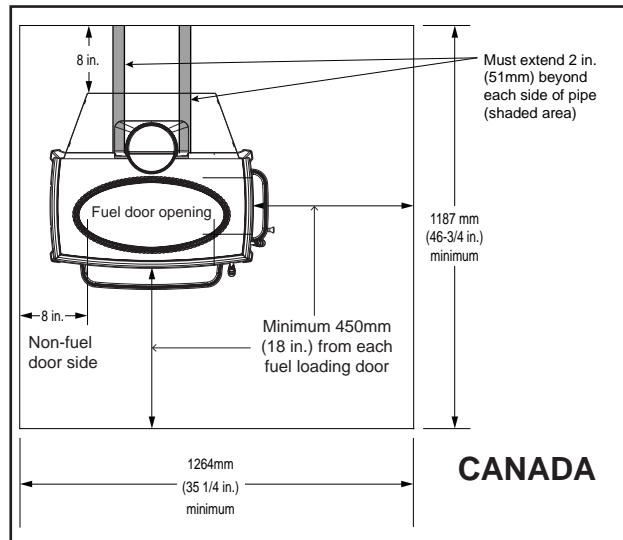

Figure 11.2
**\*EXCEPTION:** Non-combustible floor protections must extend beneath the flue pipe when installed with horizontal venting and extend 2 inches (51mm) beyond each side. **See Figure 11.2.**